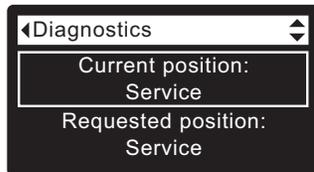

FIG. 112
4. Press the UP (▲) button to scroll through the list until **Current position** is displayed (See Figure 112).